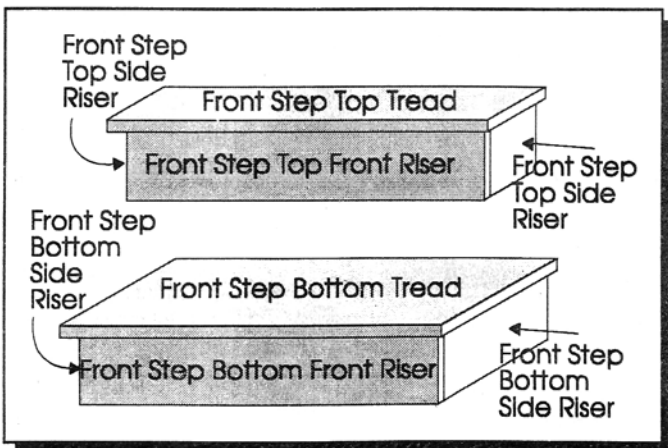

Figure 7
1. Locate all Front Step Parts except Front Step Rails (SF Sheet-19). Assemble the Front Steps as in Figure 7. Do not glue the Top Tread/Riser assembly to the Bottom assembly until bricking is completed. (Paint tops and edges of Treads before assembling.)